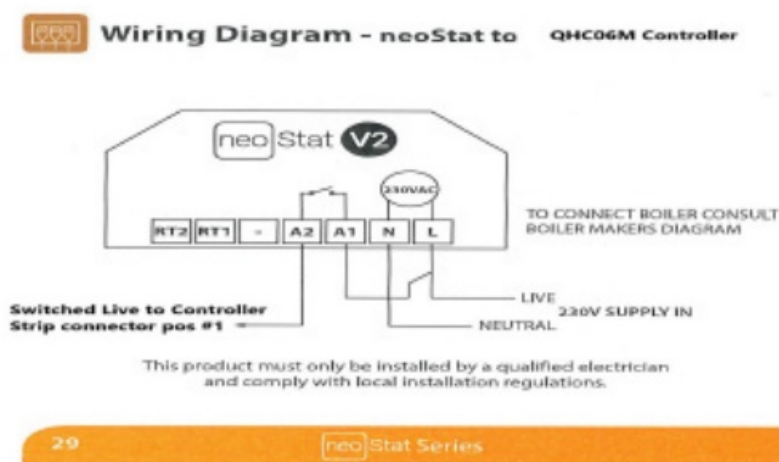

Fig 14, wiring connection to the QHCxxM & MR controller
- Once the 7-Day programmable timer is fitted correctly it will now control when the controller will be ON or OFF, see Fig 14. This function can be disabled by simply switching the S2 slide switch back to the OFF position 2, see Fig 12.